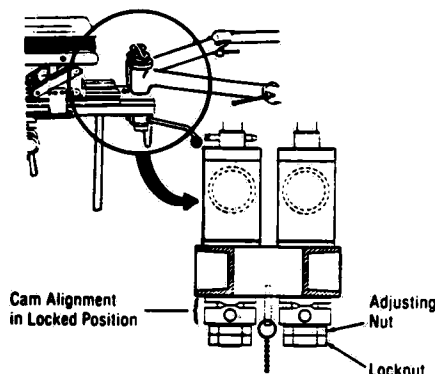

Figure 4-1. TRACTION ARM SUPPORT AND LOCKING MECHANISM.
2. Traction Arm Locking Mechanism (See Figure 4-1)
- Place each handle in locked position beneath tabletop. Cams should align as shown in Figure 4-1.